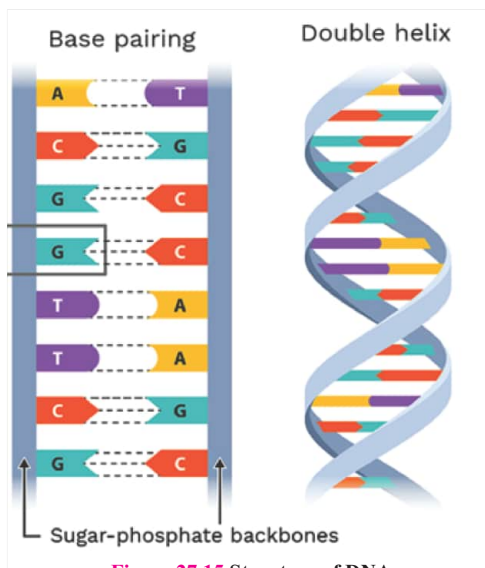

Figure 27.15 Structure of DNA
In 1953, James Watson and Francis Crick showed that DNA consists of two polynucleotide chains. Each chain forms a right-handed helical spiral and the two chains coil around each other to form a double helix. The two polynucleotide chains are not identical but opposite to each other due to base pairing i.e. '3' end of one faces the '5' end of the other. Each chain has a sugar-phosphate backbone with bases which project at right-angles and held by weak hydrogen bonds with bases of the opposite chain across the double helix. Adenine (A) is always opposite to thymine (T), and guanine (G) and cytosine (C) are opposite to each other. There are two hydrogen bonds between A and T pair, and three hydrogen bonds between G and C pair (**Figure 27.15**).